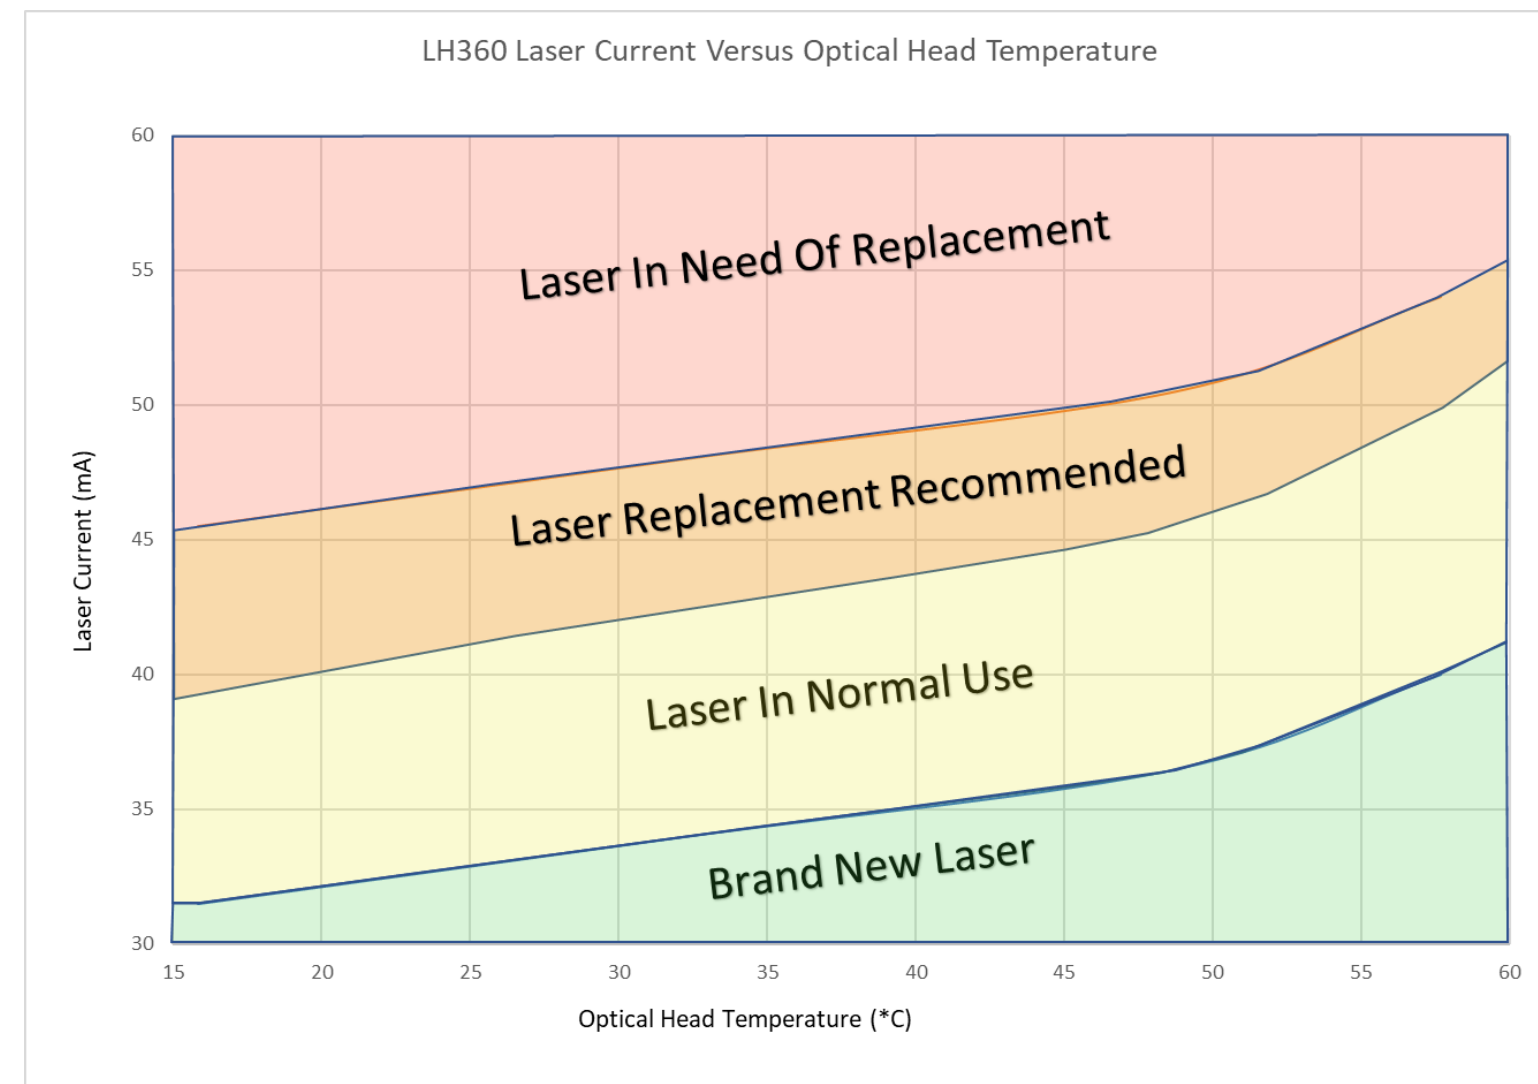

Figure 1 - Laser Current vs Optical Head Temperature
3. Locate the operating point of the laser on the Figure 1 graph.
- The internal optical head temperature is typically ~5°C higher than the local ambient temperature outside the optical head. The local temperature outside the optical head may be ~5°C higher than the average installation location temperature due to radiant heat from the stack, and heat generated from the LH360's purge blower. Figure 1 is based on internal optical head temperature.
- Figure 1 was generated based on a sample size of 1, and rule-of-thumb type information provided by the laser manufacturer. Actual results may vary.